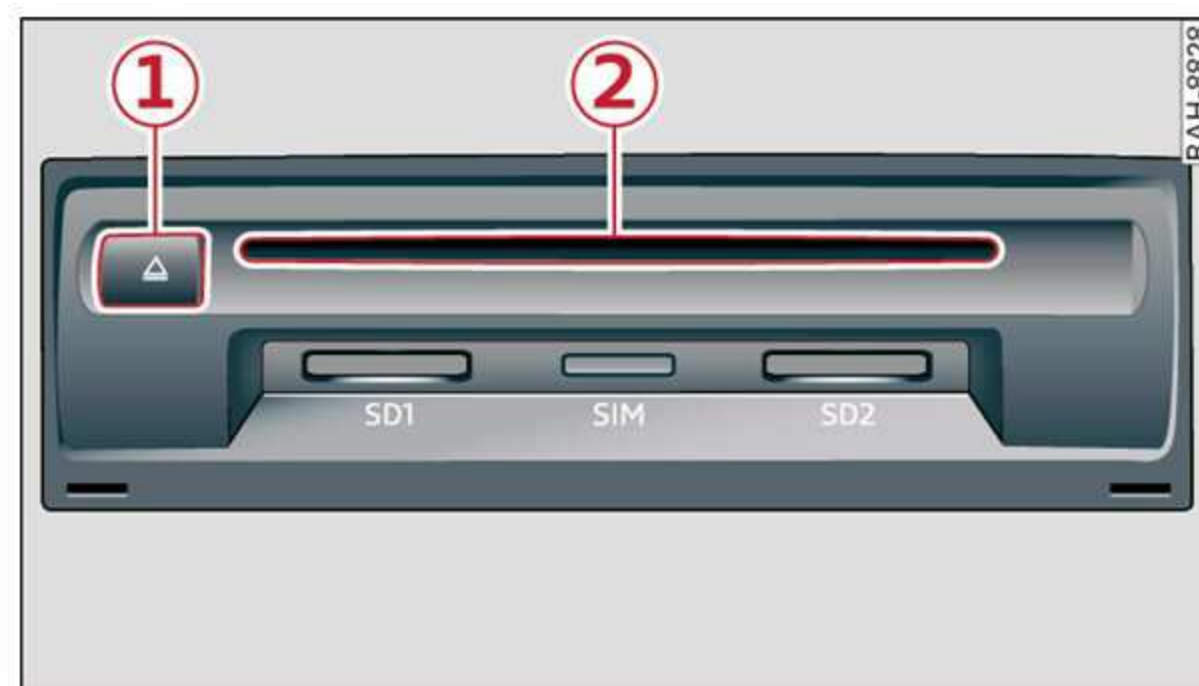

Fig. 133 Glove compartment: DVD drive
- **Loading a CD/DVD:** the CD/DVD is pulled in automatically. Slide the CD/DVD straight into the DVD slot ② with the label facing up ⇒ *fig. 133*.
- **Ejecting a CD/DVD:** press the button ① ⇒ *fig. 133*.